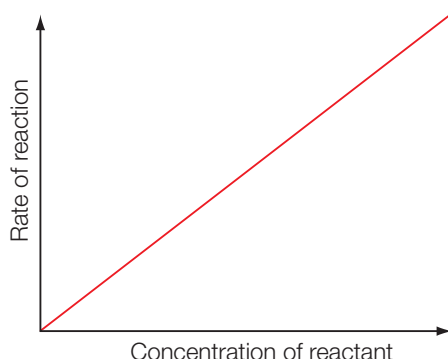

Figure 10.9 ◀
- 9 Explain how the rate constant can be found from a rate–concentration graph such as that in Figure 10.9.